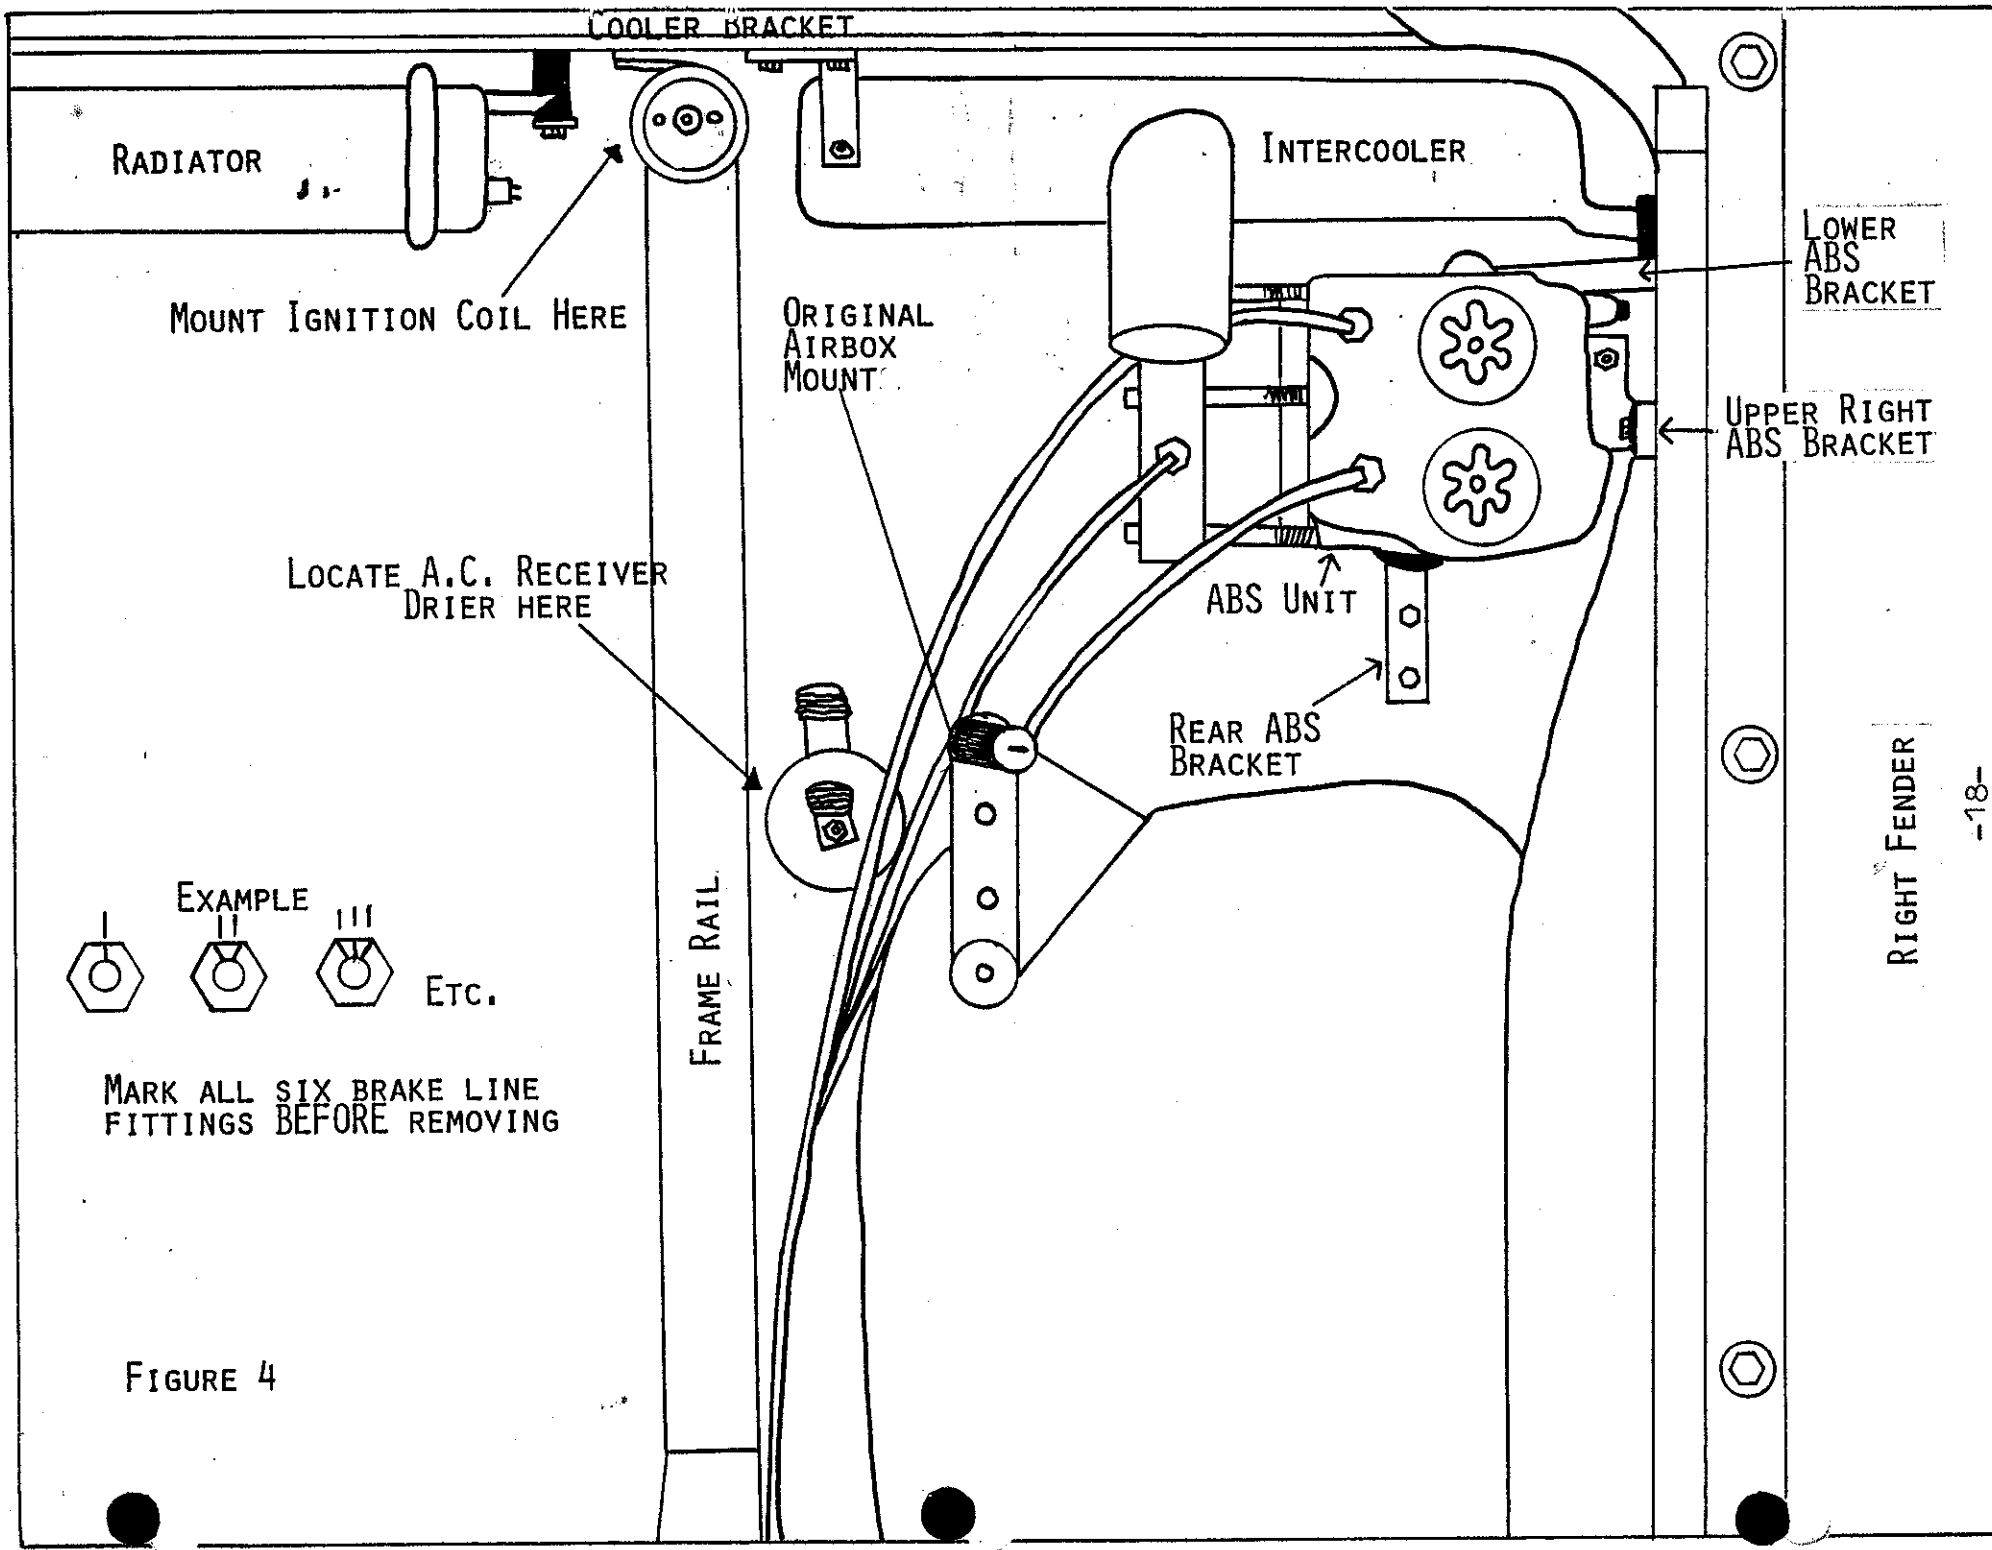

FIGURE 4
Use Figure 4 to see where ABS hydraulic unit is to be relocated for making space for intercooler. It is important that all brake lines be connected to their original location on ABS unit, to prevent any type of brake failure. Each brake line fitting nut can be marked with slash marks on top of nut and on metal next to corresponding hole for maintaining exact re-installation placement. Mark the nuts with a sharp scribe as shown in Figure 4 while marking ABS unit. Now remove all brake lines and clean up any brake fluid from paint work. Brake fluid will damage paint. Remove the two ground wires from ABS unit and unbolt ABS unit.
wheel well. The intercooler elbow that is welded to cooler at 90° angle goes on top and points toward rear of car. With intercooler attached to inner fender at upper right mount and held vertically with even spacing in lower rectangular plate, mark with scribe for hole in lower right cooler mount. Remove cooler from car and drill 3/8" hole in spot where you scribed. Install rubber mount from kit on lower right cooler tab using 8mm nut and 8mm wave washer with mount on the outer side of tab. Now re-install intercooler using both right mounts and finger tighten nuts to hold in place. Locate upper left cooler bracket from kit and attach it to rubber mount on top left of cooler with 8mm nut and wave washer using Figure 4 for reference. Mark for two bracket holes in sheet metal above right headlights. Remove intercooler from car and drill the two holes you marked with a 9/32" drill bit.
20. Using Figure 4 remount ABS unit on front top portion of right wheel well. Use rubber mount from kit for upper right bracket. Screw rubber mount with 6mm studs directly into ABS unit where original mount was unscrewed. Lower and rear ABS brackets both attach to factory rubber mounts. Mark and drill 9/32" holes to hold ABS unit in a position where all brake lines will reach and ABS unit is about 1/2" to 3/4" behind intercooler. Attach brackets with 6mm x 16mm bolts, flat washers and 6mm nylock nuts.
52. Mount ignition coil as shown in Figure 4. Coil should be mounted above right frame rail and close to radiator. Mark and drill 9/32" hole and attach coil to front sheet metal panel using 6mm x 16mm bolt, two 6mm flat washers and 6mm nylock nut. Connect primary and secondary wires.
56. Using 2-3/8" long rectangular steel pedestal mount bracket, install receiver drier in corner of sheet metal tray under factory air box brackets, referring to Figure 4 for approximate location. This pedestal mount bracket simply elevates the receiver drier and is attached to sheet metal tray using 8mm x 16mm bolt, two flat washers and one nylock nut. Drill 3/8" hole in sheet metal tray for mounting.